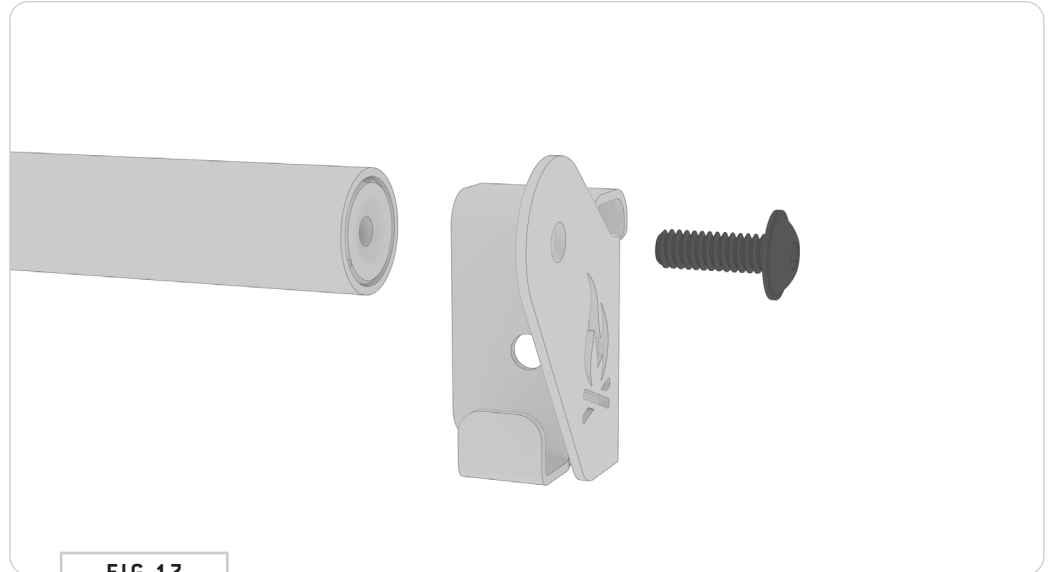
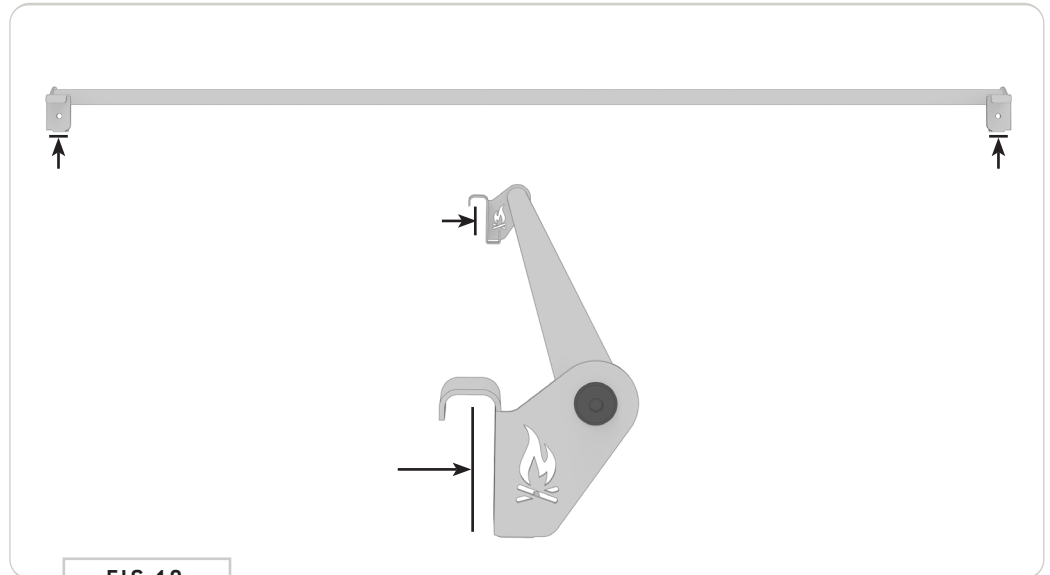

FIG 17
FIG 18
**5.1 Assemble Curtain Rod:** Use (1ea) 1/4-20 X 0.75" Flanged Button Head Screws with Loctite to install Driver and Passenger Side Brackets on the end of the Curtain Rod Weldment (FIG 17). Align the brackets so the mounting faces are parallel (FIG 18) and tighten the screws.